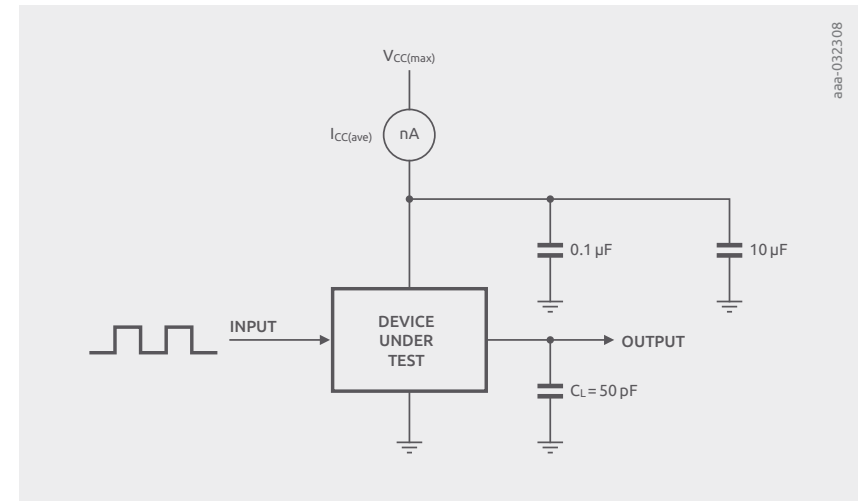

Figure 3.3 | Test set-up for C_{PD} determination
C_{PD} is specified in the CMOS device data sheets, the published values being calculated from the results of tests described in this section. The test set-up is shown in Figure 3.3. The worst-case operating conditions for C_{PD} are always chosen and the maximum number of internal and output circuits are toggled simultaneously, within the constraints listed in the data sheet. Devices that can be separated into independent sections are measured per section, the others are measured per device.
In the case of 74LVC244, I_{STAT} is negligible and can be considered as zero for the purpose of C_{PD} calculation. The test set-up for the '244 as indicated in *Conditions for C_{PD} tests* was used, with the load shown in Figure 3.3. At $V_{CC} = 3.6$ V, $f_i = 10$ MHz; $I_{CC(ave)}$ was found to be 2.24 mA.
In the case of 74LVT244, I_{STAT} cannot be considered as negligible at low frequency. As a result, a higher frequency is recommended for modeling its C_{PD} . The test setup depicted in Figure 3.3 has been used, however at a frequency of 30 MHz. $I_{CC(ave)}$ was found to be 11.53 mA. We then apply Equation (5) with the assumption that I_{STAT} is negligible.